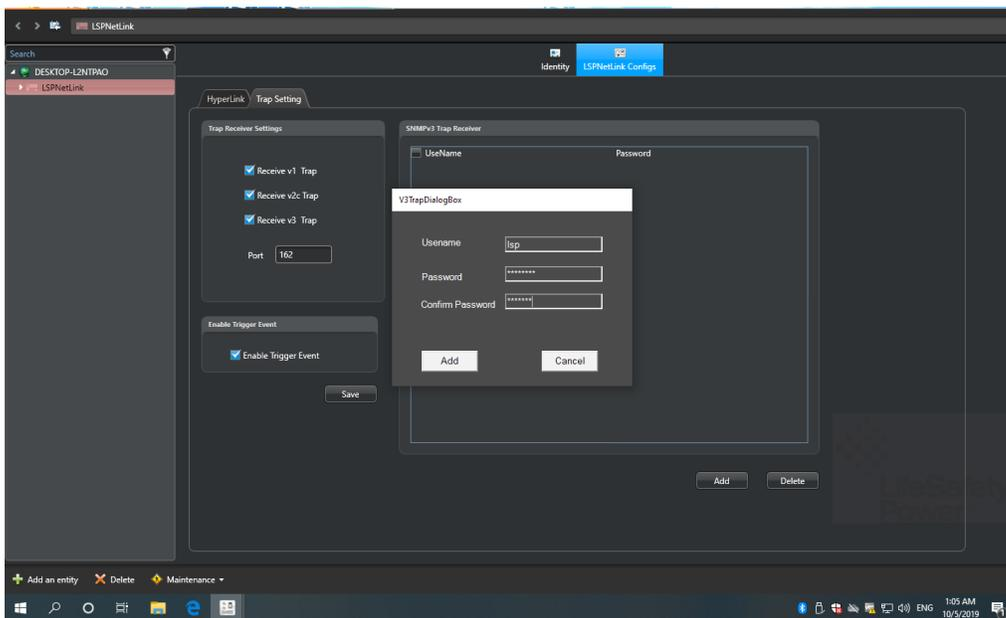

Figure 26
- Open the "LSPNetLink Configs" page, select the "Trap Settings" tab, and add an SNMP V3 Trap Receiver. Select "Enable Trigger Event" to create an event when a NetLink Trap is received. Note that all LSP NetLink moduels share the Trap Receiver settings and SNMP v3 Trap Receiver, but trigger event settings are indepent. The SNMP version selected should be consistent with the SNMP version selected on the NetLink. If SNMPv3 is selected, a user name and password must be added. (Figure 26)